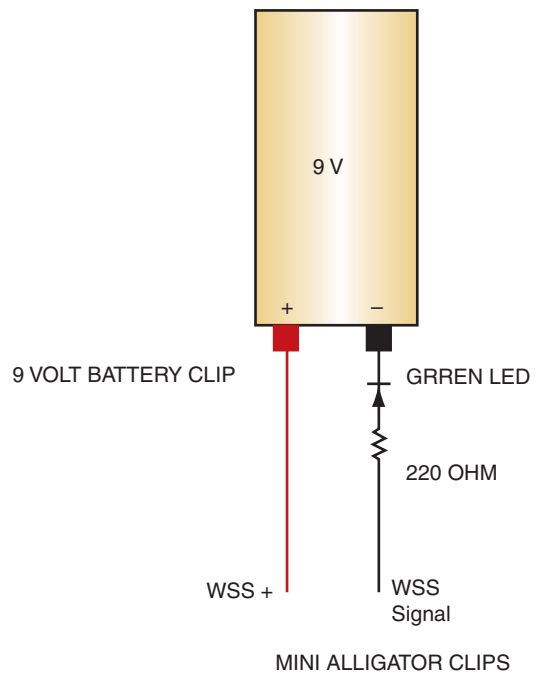

FIGURE 10-42
1. Use the schematic shown in Figure 10-42 below to construct the sensor tester.